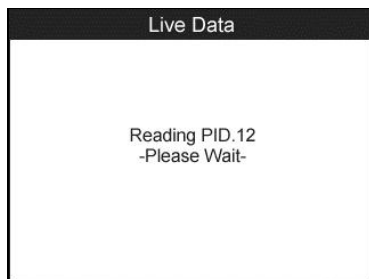

Figure 6.8
- 2) Wait a few seconds while the scan tool validates the PID MAP (Figure 6.8).